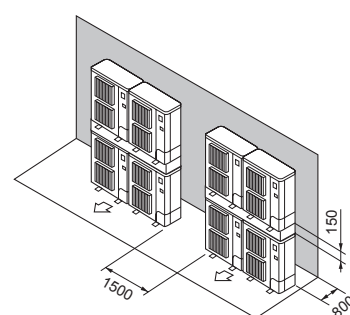

Fig. 2-19
- (7) Stacked unit arrangement (Fig. 2-19)